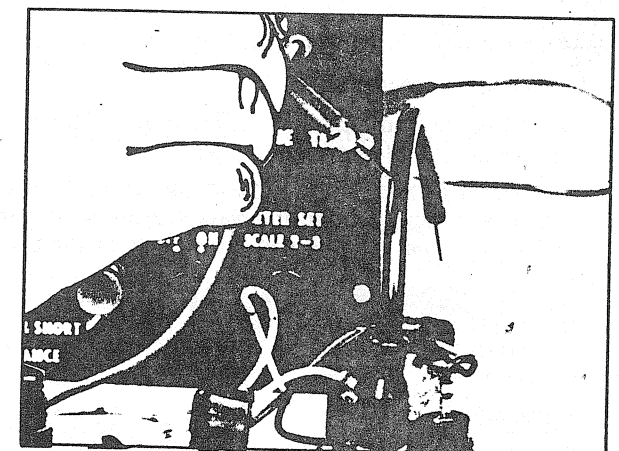

FIGURE 7
- If coil insulation is cracked, leaking or damaged, a spark discharge will be noted at the cracked or leading surface. (Fig. 7).